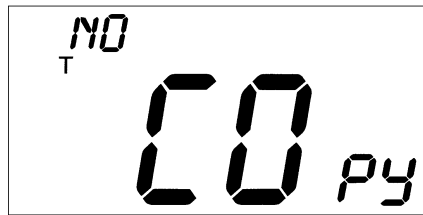

Fig. 7 — Copy Command Display
11. The Copy command can be used to copy the previous day's schedule if the schedules are the same. The copy command becomes available after all the occupied periods are programmed in a day. Use the UP ARROW to change the copy command to YES. Use the DOWN ARROW to change the copy command to NO. Press the Mode/Next button when the choice has been made. See Fig. 7.